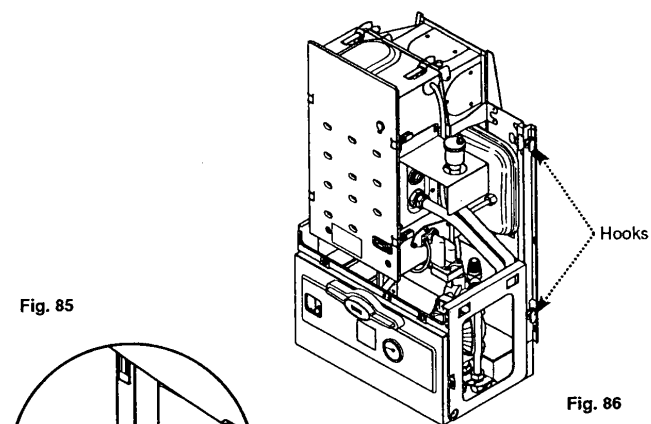

Fig. 86
3. Offer the outer case up to the wall plate. Engage the slots in the case over the hooks on the back plate. Ensure that the case is positively located (Fig. 86).